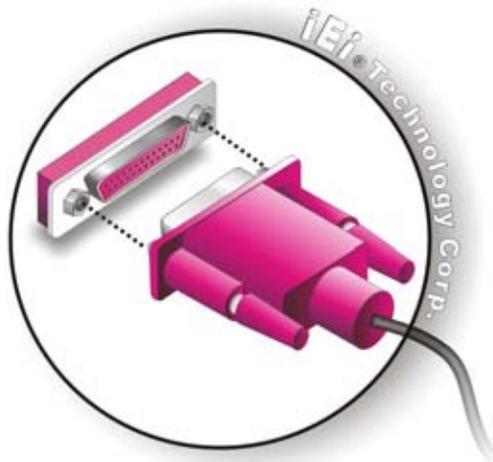

Figure 4-14: Connect the LPT Device
Step 5: Connect LPT device. Once the LPT interface connector is connected to the chassis, the LPT device can be connected to the LPT interface connector. See Figure 4-14